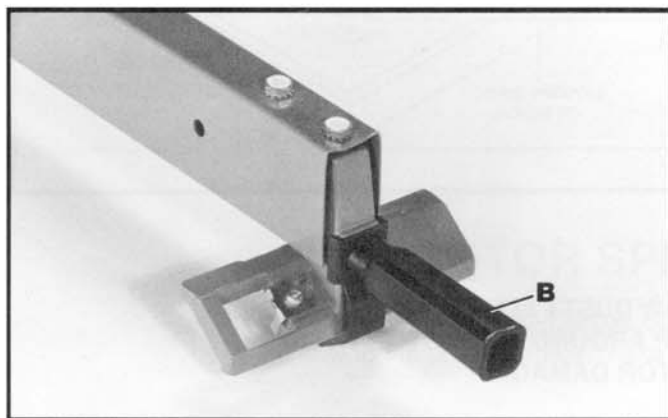

Fig. 10
2. Fig. 10, illustrates the fence locking handle (B) assembled to the front of the fence.